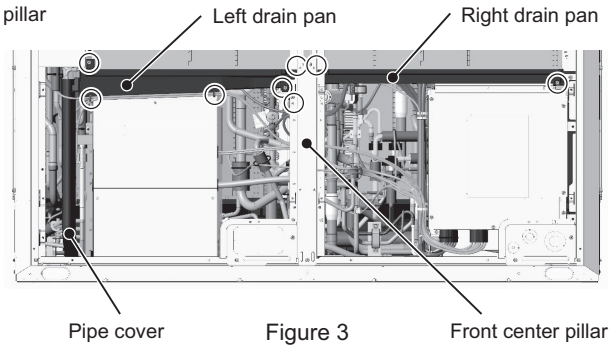

Figure 3
- (3) Remove the pipe cover. (Figure 3)
- (4) Remove the two screws from the front center pillar. (2 screws, Figure 3)
Remove the left drain pan. (2 screws; 2 tie bands to be cut, Figure 3)
- (5) Remove the right drain pan. (2 screws, Figure 3)